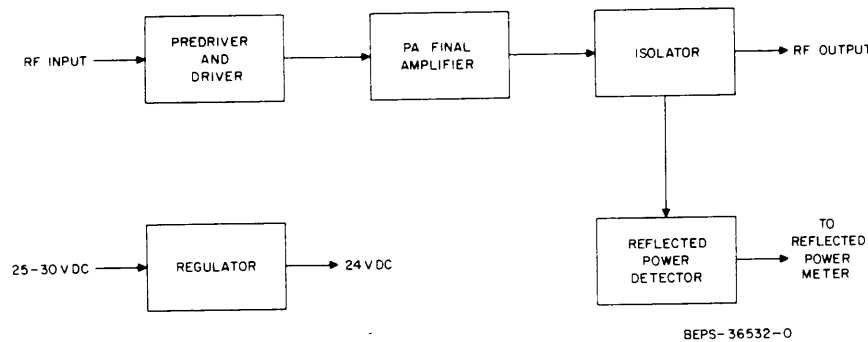

Figure 4. Power Amplifier Block Diagram
- 2.1 Each power amplifier amplifies the rf signal from each exciter to about 45 watts. The following describes the functional theory of a single power amplifier. Refer to Figure 4.